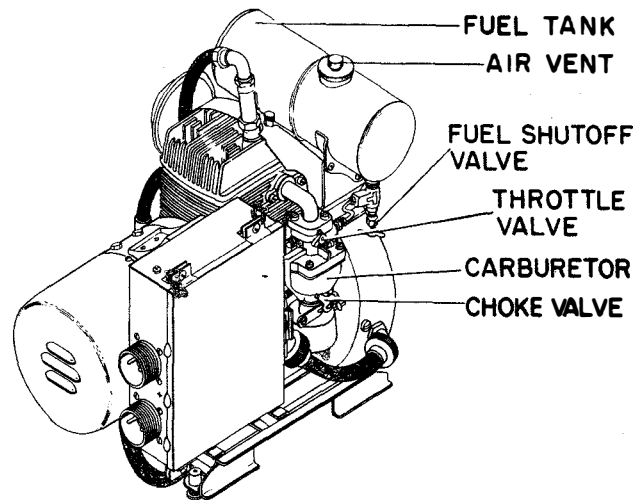

Figure 3-27. Gasoline Engine Controls
(2) HEADSET, NAVY TYPE CW-49507.—Remove the CW-49507 Headset and the CW-49534 Headset Extension Cord from the Equipment Accessories box, then connect the extension cord between the headset and the PHONES jack on the front panel of the receiver.
Step 1. Make certain that the POWER switch on the radio receiver is in the OFF position and that the BATTERY CHARGE ONLY—RADIO switch on the generator set control box is in the RADIO position (Figure 3-27).